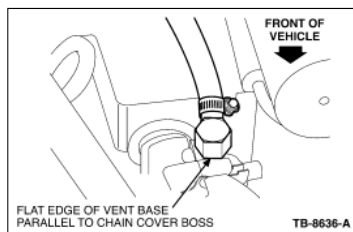

Figure 2 - Article 06-18-13
- Taurus and Sable with floor shifter - Must face to the rear of the vehicle with the flat edge of vent base parallel to the chain cover boss (Figure 2)